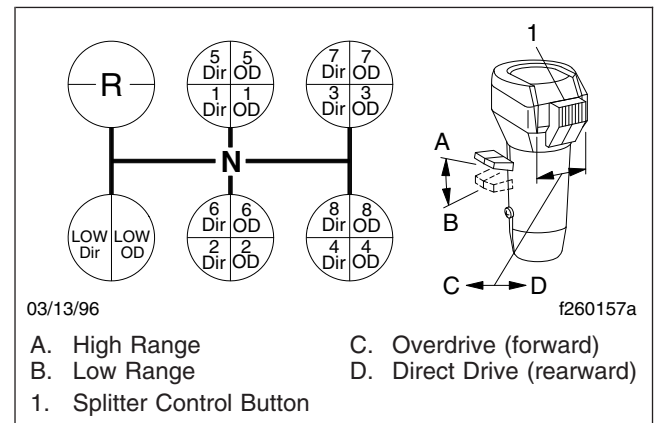

Fig. 14.2, Eaton Fuller 18-Speed Transmission Shift Pattern
2. Position the range preselection lever down, into low range. See Fig. 14.2.
3. Make sure the splitter control button is in the direct (rearward) position. See Fig. 14.2.
Shift upward from low overdrive to 1st direct by first moving the splitter control button into the direct (rearward) position (Fig. 14.2). Move the shift lever, double-clutching, to the 1st gear position.
To shift from 5th direct to 5th overdrive, move the splitter control button (**Fig. 14.2**) into the overdrive (forward) position, then immediately release the accelerator. Press and release the clutch pedal. After releasing the clutch, accelerate again.